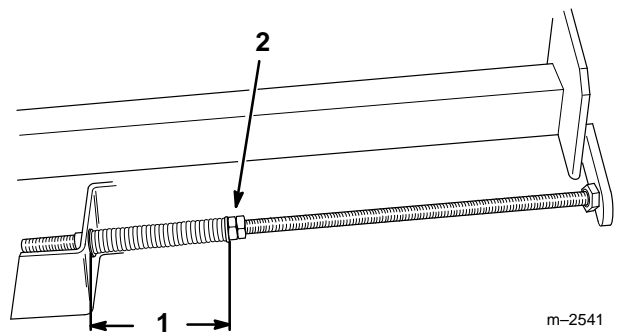

Figure 25
3. Belt Guide (2)
6. Tighten the jam nuts on the adjusting shafts until the springs are compressed to a length of 5" (12.7 cm) (Fig 25).